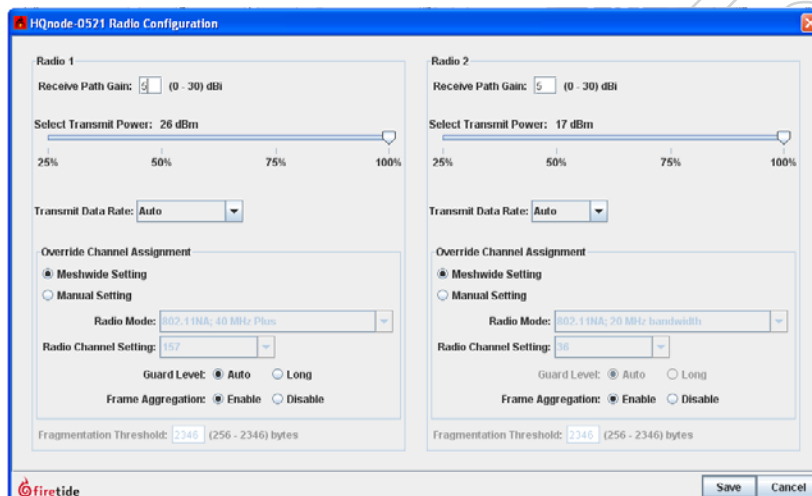

FIGURE 1.19 NODE RADIO SETTINGS
**Radio Settings** lets you over-ride mesh-wide radio settings, adjust transmit power, and other things. It is covered in more detail in Figure 1.19.